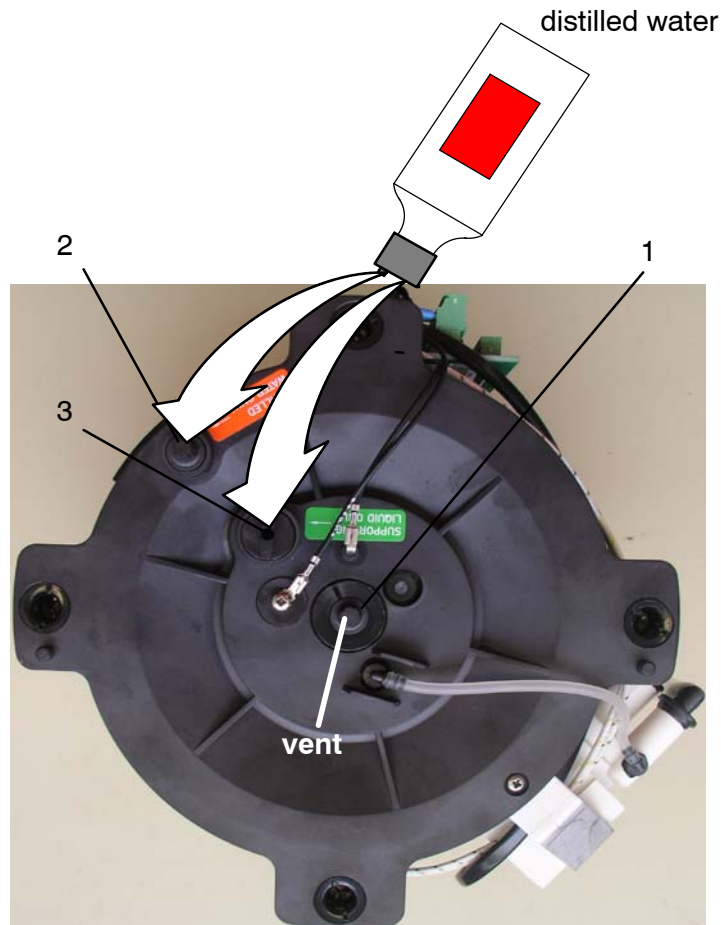

Figure 15 : Immediate measure to fill up with distilled water
- Open the ventilation outlet (Figure 15 /1), the supporting liquid screw (Figure 15 /3) and the distilled water screw ( Figure 15 /2).